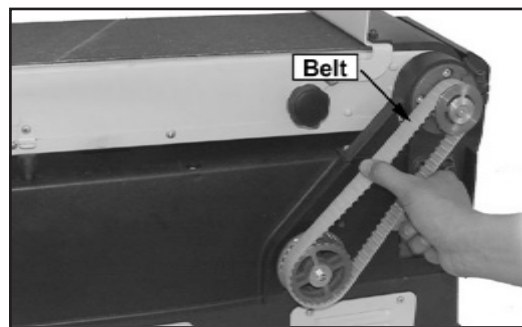

Fig. 22
3. Loosen four M8 hex head screws to allow the pulleys to shift enough to place belt around them. Place the belt around the motor pulley and drive pulley as shown. (See Fig. 22)